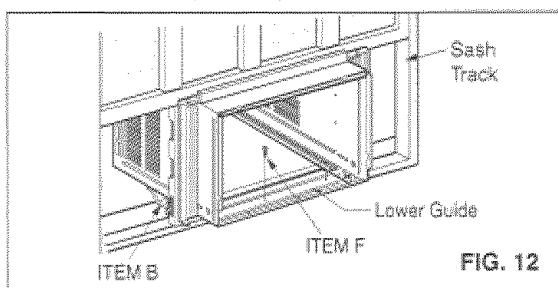

FIG. 12
- 11** Attach the cabinet to the inner sill by driving the screws (ITEM F) through the Lower Guide into the window inner sill (FIG. 12).